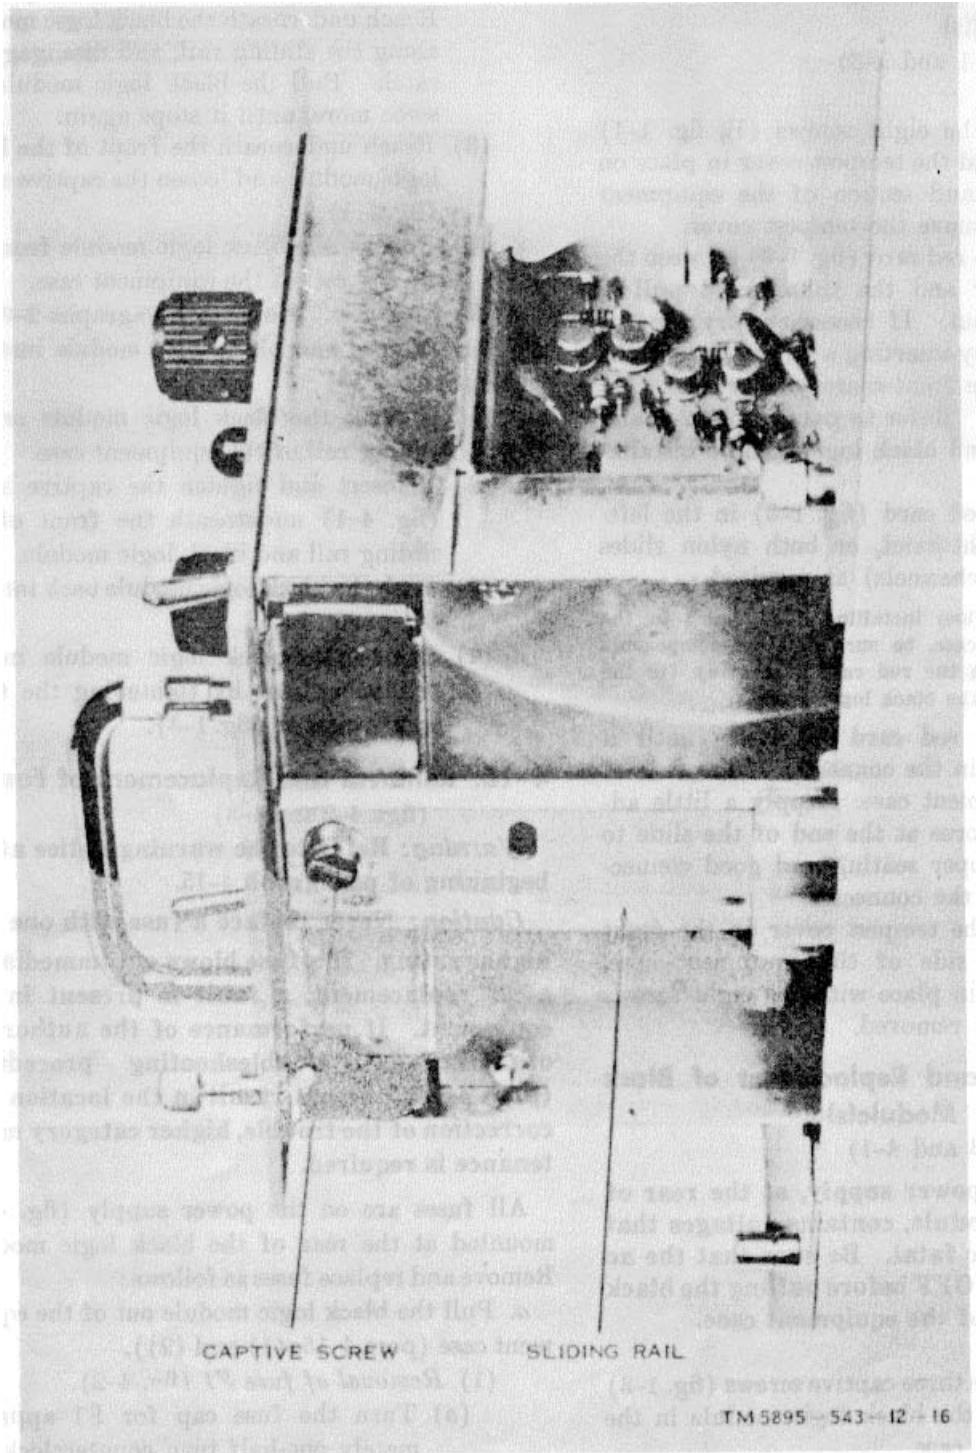

Figure 4-1. Partial view, underside of black logic module and sliding rail.
- (2) Grasp the handle of the black logic module and pull the black logic module out until it stops (about halfway out). Reach underneath the black logic module, along the sliding rail, and disengage the catch. Pull the black logic module out until it stops again.
- (3) Reach underneath the front of the black logic module and loosen the captive screw (fig 4-1).
- (4) Remove the black logic module from the sliding rail of the equipment case.
- (1) Replace the black logic module on the sliding rail of the equipment case.
- (2) Reinsert and tighten the captive screw (fig. 4-1) underneath the front of the sliding rail and black logic module.
- (3) Push the black logic module back into the equipment case.